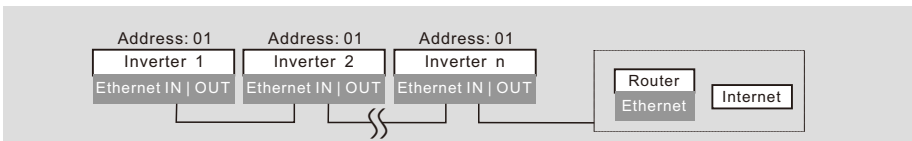

Figure 4.7
Connect in daisy chain configuration see Figure 4.7. Use the SN/QR code on the board to register the system on Canadian Solar monitoring website or APP. See APP for details.
- 4. Connect inverters in daisy chain configuration see Figure 4.7. An IP address will be assigned by the DHCP server. Refer to router configuration pages to find assigned IP address.